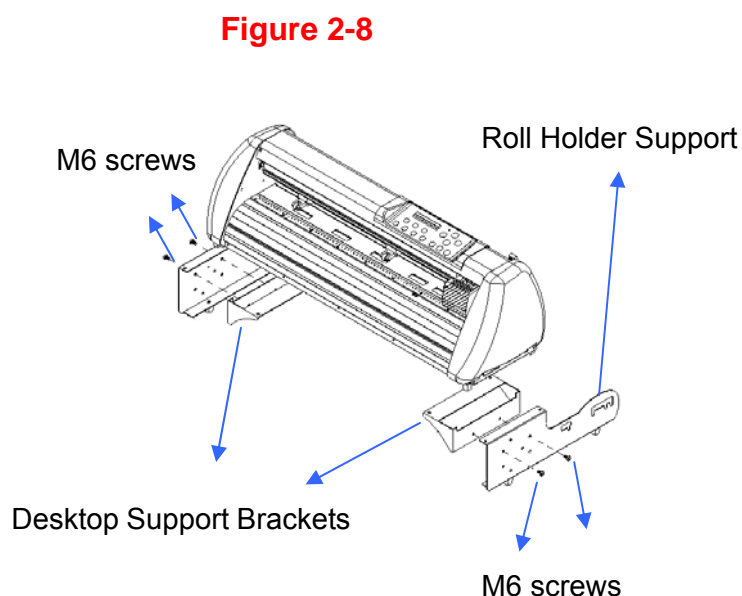

Figure 2-8
Step 3 Position the Desktop Support Brackets beside the Roll Holder Support and insert M6 screws into the Roll Holder Support and tighten them with M6 L-shape screw driver. (Refer to Figure 2-8 at the left).